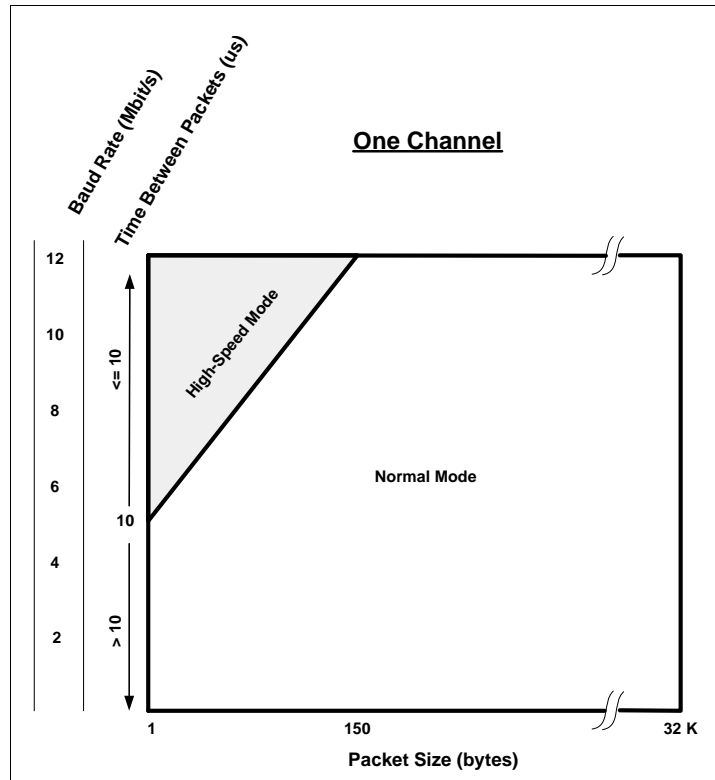

Figure 1 : Normal / High-Speed Mode Selection
- High-Speed Mode : Only Port A is enabled and this mode is only supported on a HSS Adapter with a 100 MHz MPC862 processor. See Figure 1 and Paragraph 3.3.12 for more details.